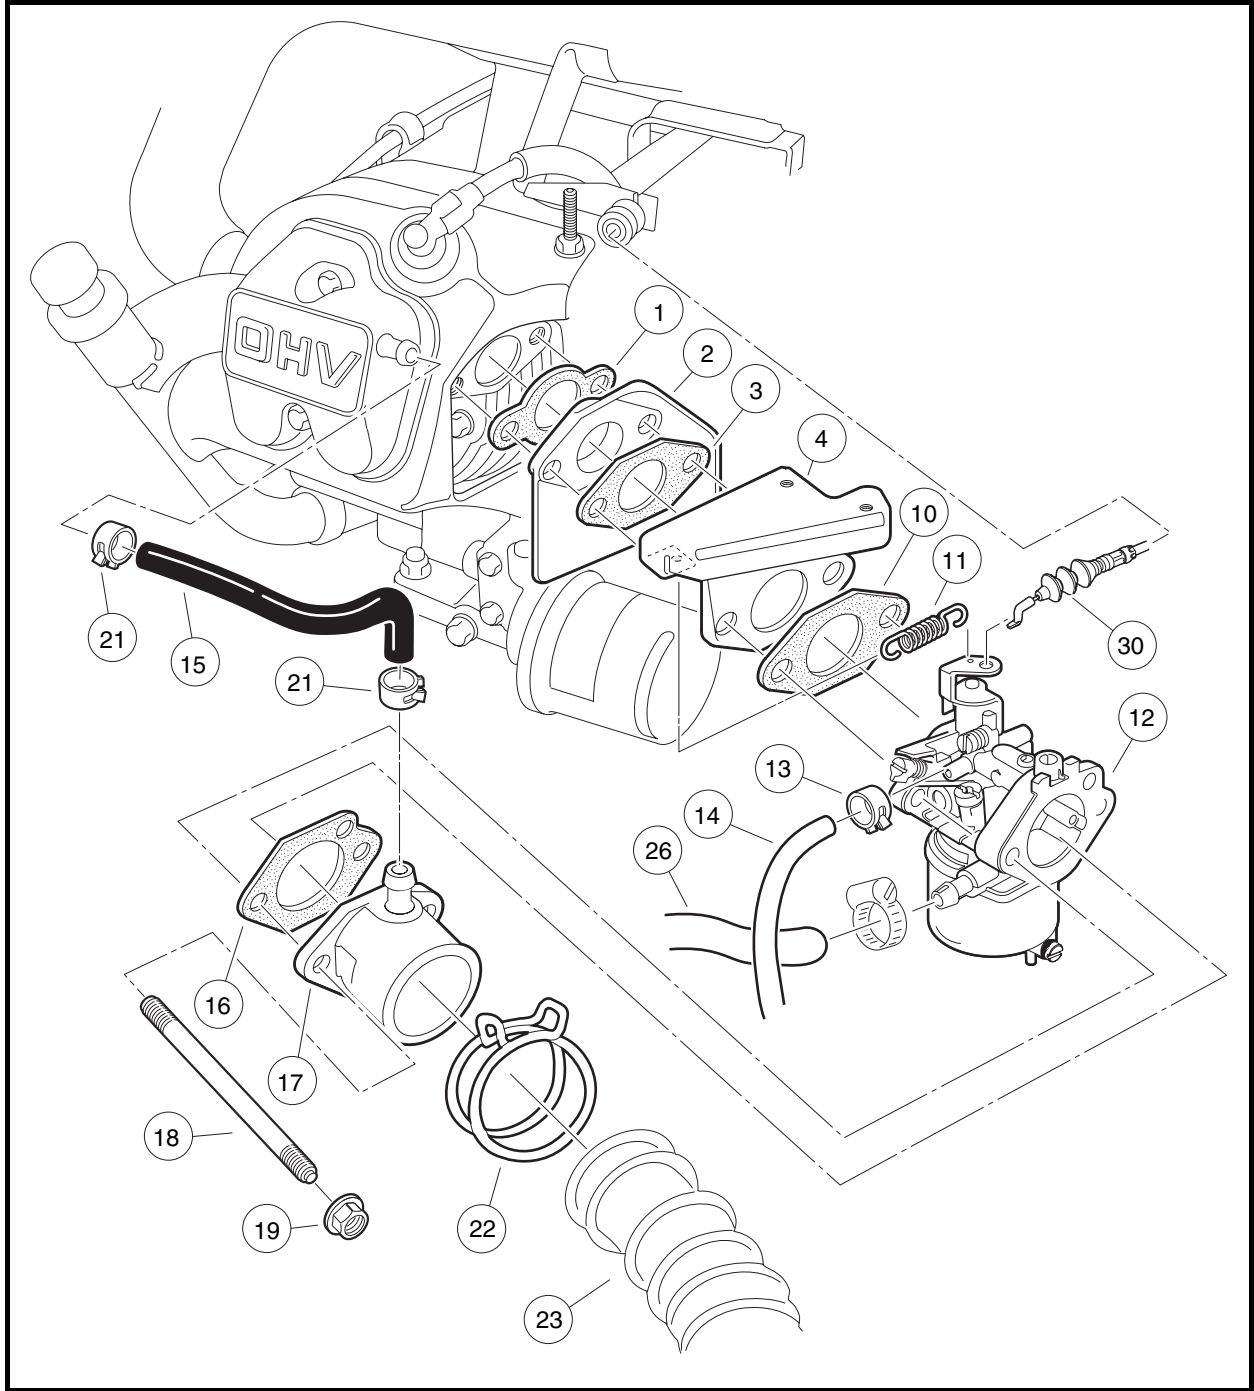

Figure 16-1 Carburetor Mounting
- 1.2. Loosen the intake air hose clamp (22) and disconnect the intake air hose (23) at the carburetor end only (**Figure 16-1, Page 16-2**).
- 1.7. Remove the carburetor retaining nuts (19), intake pipe (17), and carburetor (12). **See following NOTE.**
NOTE: Note the orientation of the gasket (16), between the carburetor intake pipe (17) and the carburetor body (12) so that it can be replaced in the same orientation (**Figure 16-1, Page 16-2**).
12. Install the carburetor on the engine (**Figure 16-1, Page 16-2**).
- 12.1. Attach the throttle return spring (11) to the carburetor and then to the throttle bracket (4) just before positioning the carburetor and securing it to the engine (**Figure 16-1, Page 16-2**).
- 12.3. Install the carburetor retaining nuts (19) and tighten them to 50 in-lb (5.7 N·m).
13. Connect fuel supply line (26) and tighten screw clamp to 9 in-lb (1.0 N·m) (**Figure 16-1, Page 16-2**).
14. Install carburetor vent line (14) and clamp (13).
15. Install the governor cable (30).
16. Install the governor guard (5), flat washer and nylon lock nut. Tighten to 30 in-lb (3.4 N·m).
17. Install the intake hose (23) and secure with hose clamp.